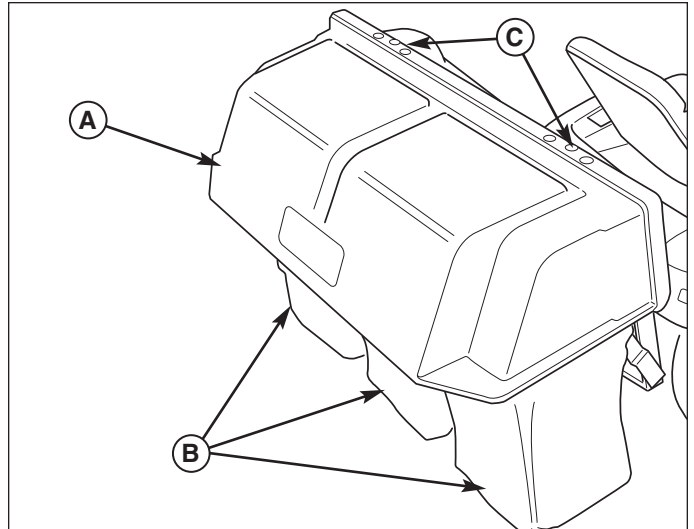

Figure 22. Install Cover
4. Install the catcher cover (A, Figure 22 & 23) and secure with the hinge pins (B) and hair pin clips (D).